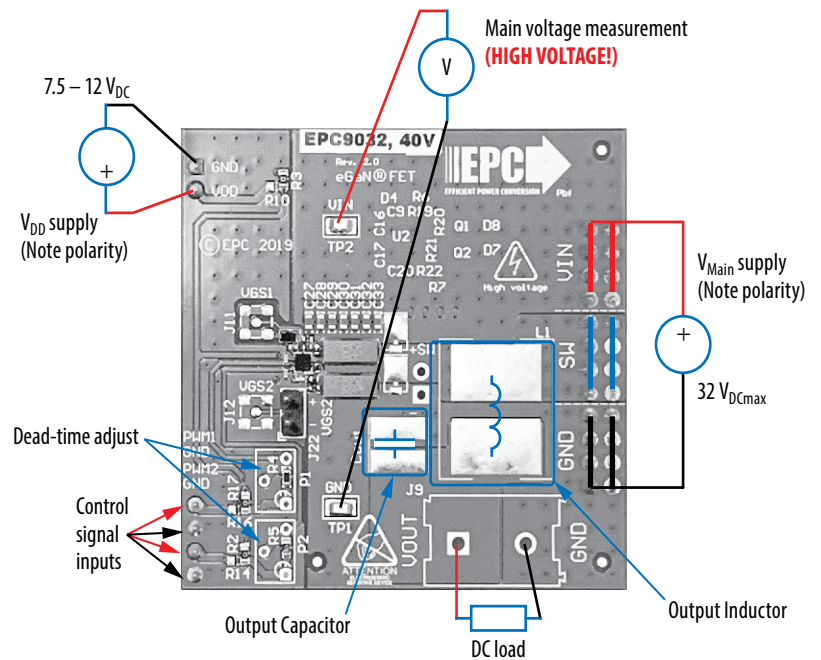
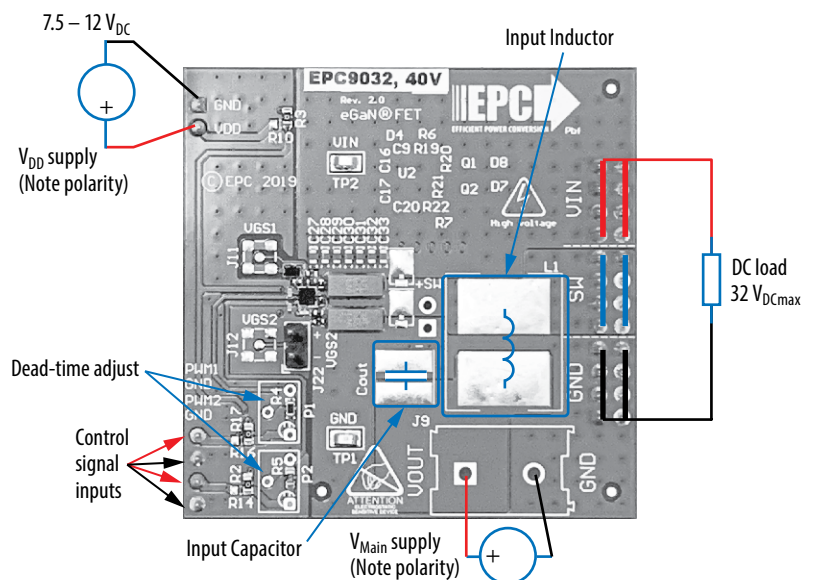

Figure 2: Buck configuration
Figure 3: Boost configuration
The half bridge evaluation board EPC9032 is easy to set up as buck or boost converter. Refer to figure 2 for buck converter configuration and measurement setup, and figure 3 for boost converter setup, and follow the procedure below:
2. With power off, connect the switch node (SW) of the half bridge to your circuit as required (half bridge configuration). Or use the provided pads for inductor (L_1) and output capacitors (C_{out}), as shown in figure 2 with a DC load connected across V_{OUT} and GND.
1. The inductor (L_1) and input capacitors (labeled as C_{out}) can either be soldered onto the board, as shown in figure 3, or provided off board. Anti-parallel diodes can also be installed using the additional pads on the right side of the EPC2024 FETs.